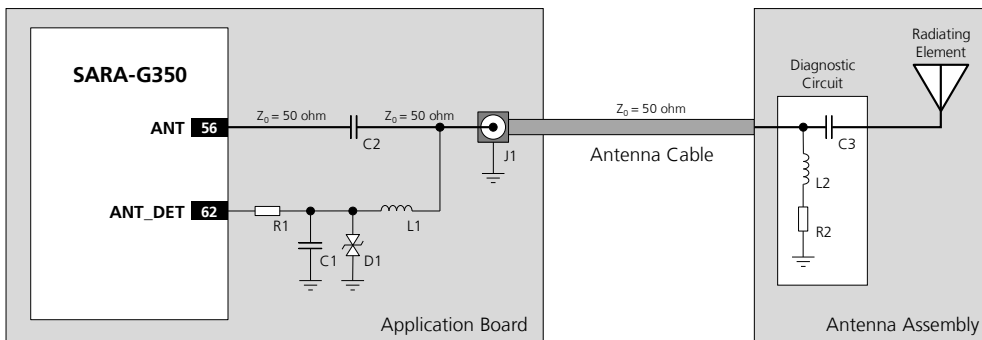
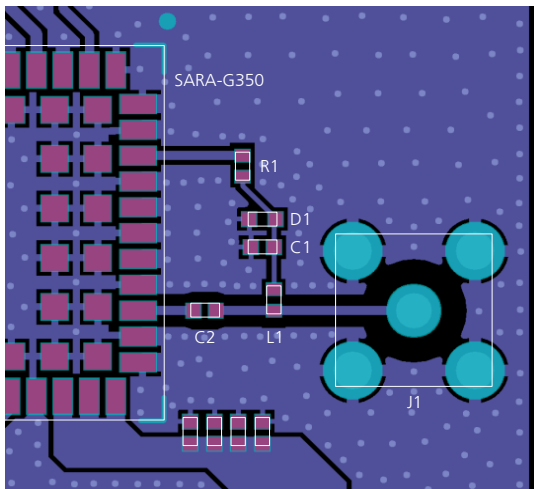

Figure 41: Suggested schematic for antenna detection circuit on application board and diagnostic circuit on antenna assembly
Figure 42: Suggested layout for antenna detection circuit on application board
Figure 41 and Table 22 describe the recommended schematic and components for the antenna detection circuit to be provided on the application board for the diagnostic circuit that must be provided on the antenna assembly to achieve antenna detection functionality.
The antenna detection circuit and diagnostic circuit suggested in Figure 41 and Table 22 are here explained:
- Additional components (R1, C1 and D1 in Figure 41) are needed at the **ANT_DET** pin as ESD protection
The DC impedance at RF port for some antennas may be a DC open (e.g. linear monopole) or a DC short to reference GND (e.g. PIFA antenna). For those antennas, without the diagnostic circuit of Figure 41, the measured DC resistance is always at the limits of the measurement range (respectively open or short), and there is no mean to distinguish between a defect on antenna path with similar characteristics (respectively: removal of linear antenna or RF cable shorted to GND for PIFA antenna).
Figure 42 describes the recommended layout for the antenna detection circuit to be provided on the application board to achieve antenna detection functionality, implementing the recommended schematic described in Figure 41 and Table 22.
The antenna detection circuit layout suggested in Figure 42 is here explained: